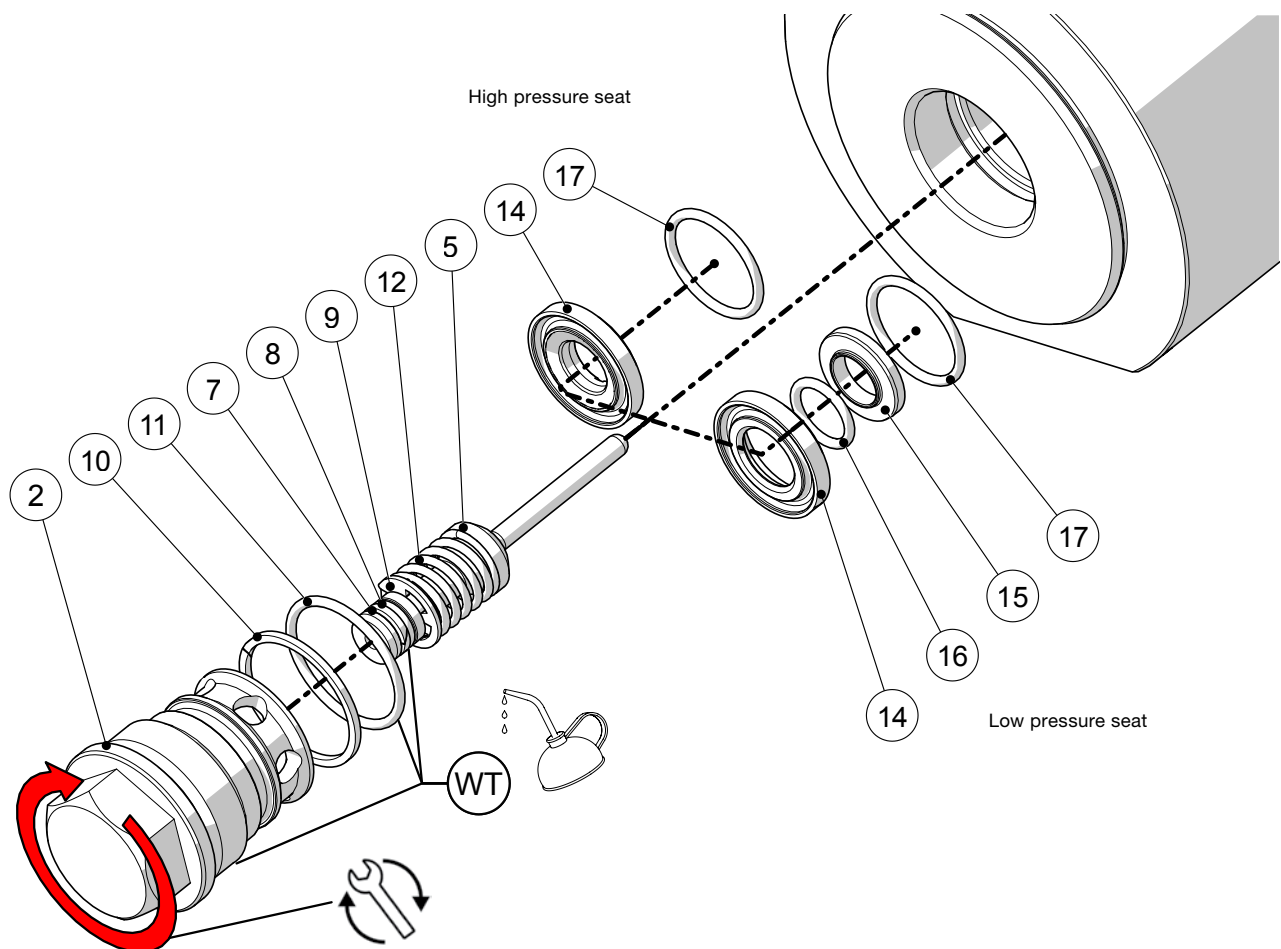

Figure 15
See Figure 15.
1. Fit the body plug back up ring (10) and body plug O-ring (11) onto the body plug (2). Ensure that they are ordered correctly, as shown in Figure 15.
2. Lightly lubricate the body plug O-ring (11) and the body plug thread (2).
3. Lightly lubricate the poppet O-ring (8) and the surrounding area of the poppet (5).
4. Insert the poppet assembly fully into the body plug (2).
5. For both types of seat fit the seat O-ring (17) onto the raised boss on the back of the seat housing (14).
6. For low pressure seats fit the LP seat insert O-ring (16) and LP seat insert (15) into the seat housing (14).
7. Fit the seat assembly into the body ensuring that the seat O-ring (17) is facing towards the body (4).
9. Torque the body plug (2) according to table below.